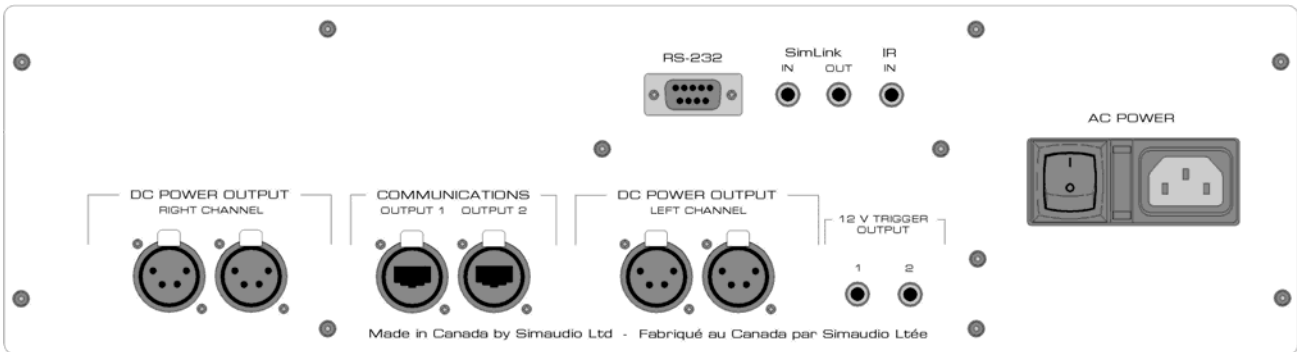

Figure 4: Rear panel of MOON P-8 Controller
The rear panel of the **MOON P-8** controller will look similar to Figure 4 (above). It is equipped with full-function bi-directional RS-232 port control and status for custom integration or automation. This is located in the upper-middle section and uses a DB9 connector. Immediately to the right of the RS-232 port are two (2) "SimLink" connectors labeled "in" and "out" on 1/8" mini jacks. Please refer to the next section entitled SimLink for more details. Your **MOON P-8** preamp has a 1/8" mini jack input for use with aftermarket infrared remote control receivers. The "IR in" connector is located on the upper right section of the rear panel. Across the lower section you will find the 3 pairs of output connectors that are used for powering the preamp chassis. To the right of these connectors are two 12 Volt trigger outputs, each on a 1/8" mini-jack. Finally, on the far right side are the "AC Fuse" socket cover; the power "main switch"; and the "AC Input" IEC receptacle for the power cord. All rear panel connectors have been chosen because they provide the best possible connections for your unit. A poor contact will degrade the signal substantially, and plugs and sockets should all look clean and free of dirt and corrosion. The easiest way to clean them is to remove the cables from their sockets and push them back in again. This procedure requires that your preamp and the rest of your components be completely turned off.
The **MOON P-8** Dual-Mono preamplifier uses the '**FRM-2**' full function, all aluminum remote control (figure 4). It operates on the Philips RC-5 communication protocol and is can be used with other MOON components such as the Andromeda, Eclipse, SuperNova and Equinox CD Players, P-3 Preamplifier, and both the i-5 and i-3 integrated amplifiers.